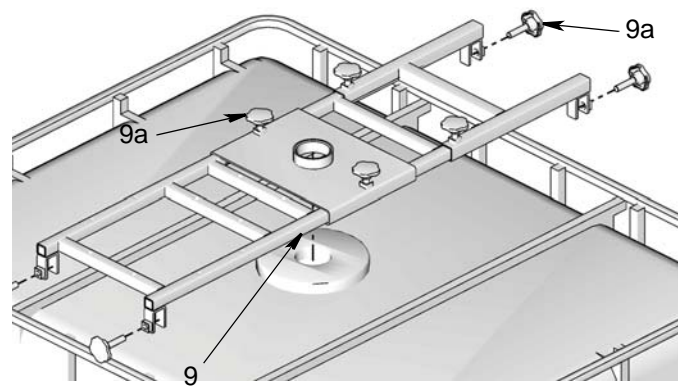

FIG. 7
2. Slide the top bracket (9) to the center of the IBC tank aligning the hole in the center of the bracket with the hole in the top of the tank. Secure the bracket (9) in place by tightening the 6 knobs (9a) securely (FIG. 7 and 8).